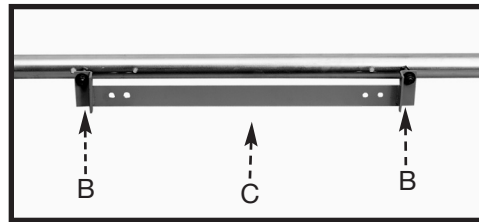
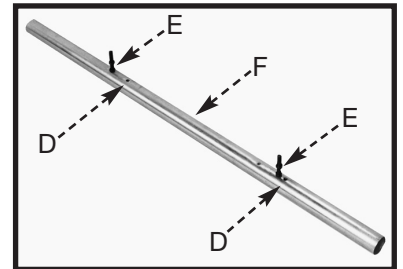

Fig. 5
Fig. 6
4. Locate the lower rail assembly (Fig. 5), and remove one nut and washer (B) from each side. Remove the mounting bracket (C). (It is not used in this assembly.)
**NOTE:** Save the two nuts and washers (B) for use later.
5. Move the studs (E) Fig. 6 on the lower guide rail (F) to the holes (D) in the guide rail. Holes should be 20-1/4" apart.